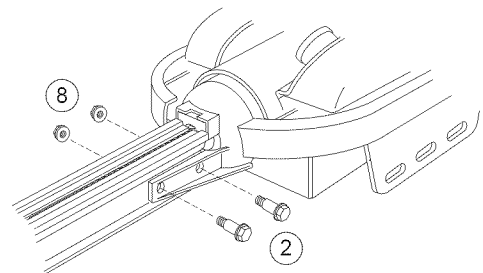

Figure 10 Bolt 1st Rail Section to Power Head
- D Connect first Rail Section to Opener Power Head. Connect with 2 (1/4"-20) (yellow) Hex Head Shoulder Bolts and 2 (1/4"-20) Hex Serrated Flange Nuts (Figure 10). **Finger-tighten until later.**